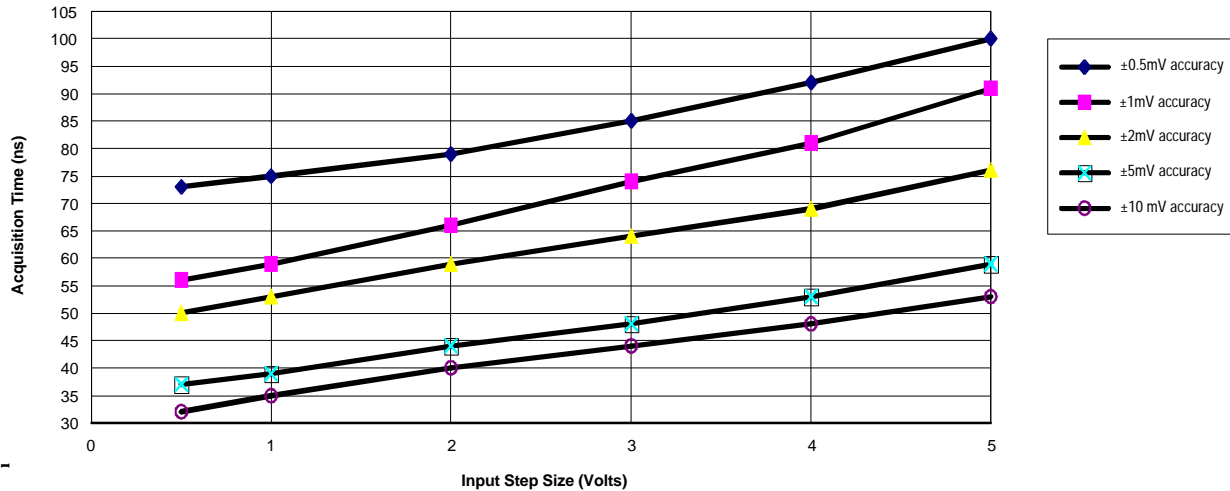

Figure 4. Acquisition Time versus Accuracy and Step Size
① Pins 3 and 4. ② See Figure 4 for relationship between input voltage, accuracy, and acquisition time. ③ Pins 6 and 22.
- See Figure 4 for acquisition time versus accuracy and input voltage step amplitude.
As shown in the plot (Figure 4) of acquisition times vs. input signal step size, the S/H's internal to the CDS-1402 acquire smaller-amplitude signals quicker than they acquire larger-amplitude signals. In "maximum-throughput" applications, assuming "asymmetric" timing can be accommodated, each S/H should only be given the time it requires, and no more, to acquire its input signal. Leaving a S/H amp in the sample mode for a longer period of time has little added benefit.